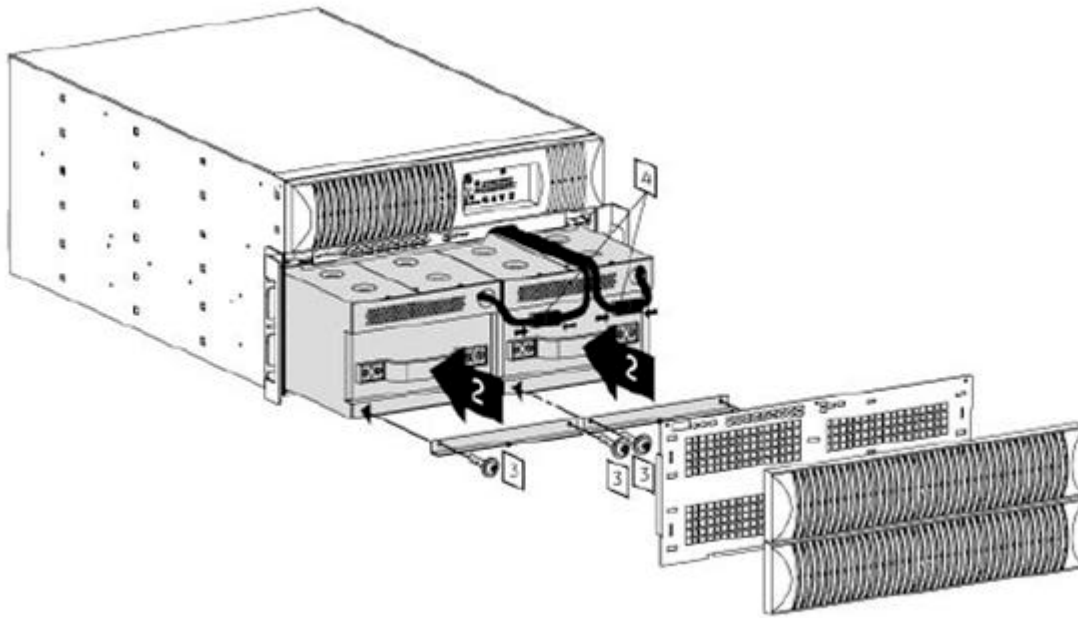

FIG 16 – XPRT-10KVA SLIDE BATTERY PACKs INTO UPS
2. Place the battery packs in front of the battery compartment, aligning the rear connector to the front panel (see FIG 16).